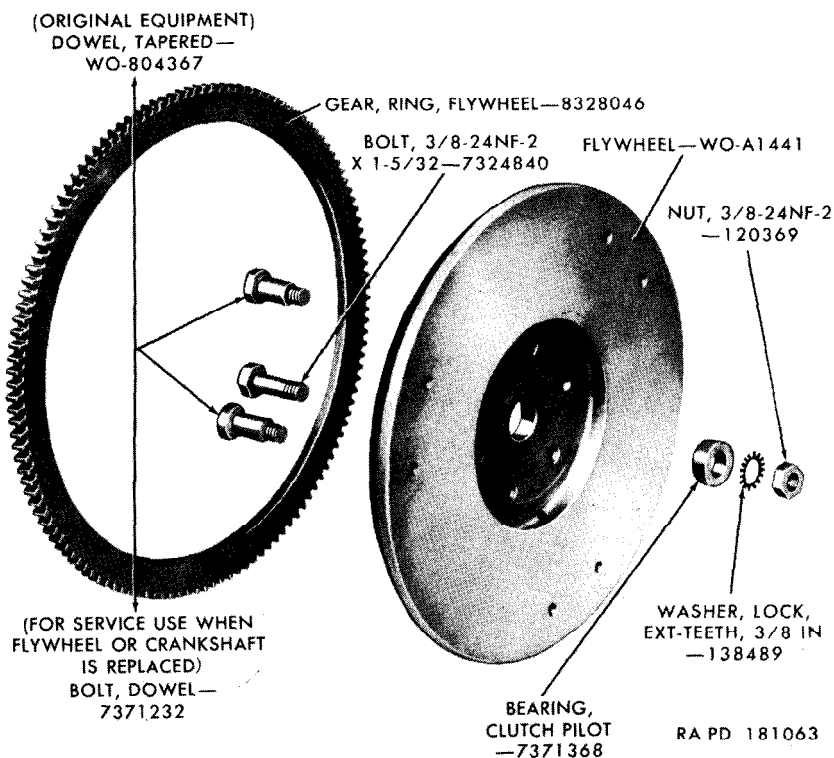

Figure 52. Flywheel assembly—disassembled view.
a. If the friction face of the flywheel is scored or worn so badly that it cannot be corrected by refacing, replace the flywheel and flywheel ring gear assembly (fig. 52). If any of the mounting holes are misshapen or elongated, replace the flywheel.
accommodate the *straight* dowel bolts (fig. 52) furnished with the replacement flywheel or crankshaft as follows: